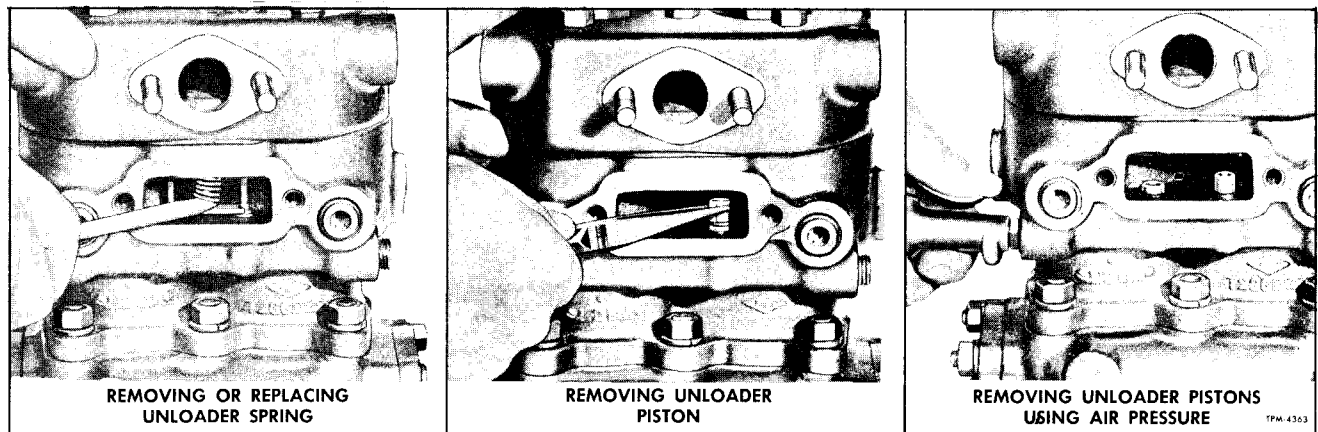

Figure 6—Removing Unloader Components
REMOVAL (Fig. 6)
3. Lift each plunger guide and remove guide and plunger. Lift pistons out of bores. If piston is not easily removed, build up air pressure in system until governor cuts out raising piston. If compressor has been removed from vehicle, use air pressure as shown in figure 6.